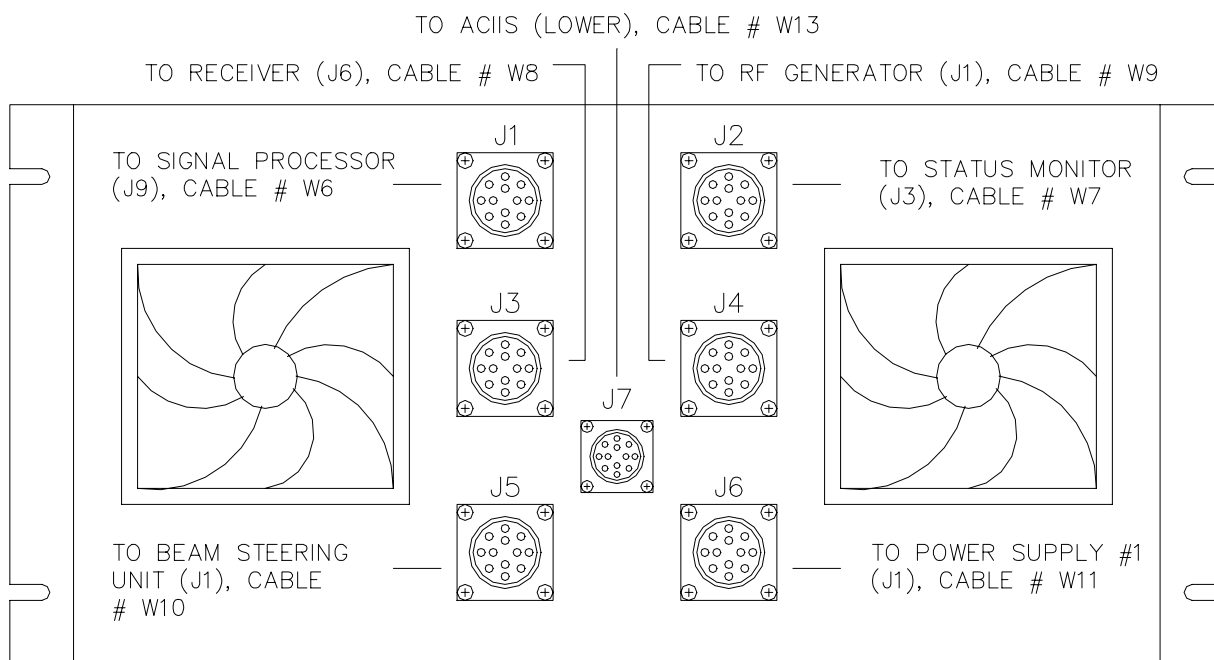

Figure 4-38 Power Supply #1 and #2 Rear Panels
Power Supplies #1 and #2 are the bottom two units of the Equipment Cabinet (see Figure 4-1). Power Supply #1 (PS #1) consists of two short-circuit protected subsidiary power supplies: +5.25 VDC and +28 VDC. Power Supply #2 (PS #2) consists of the following short-circuit protected subsidiary power supplies: two (2) +60 VDCs; one +15 VDC; one -15 VDC; and one -5 VDC. Figure 4-36 shows the interfaces between various profiler components and the two power supplies. The front and rear panels of PS #1 and PS #2 are illustrated in Figure 4-37 and Figure 4-38, respectively.
3. Disconnect all components that draw current from the power supplies. The most convenient place to do this is on the rear panel of PS #2 (see Figure 4-38).
If the voltages are out of specification, the problem has been isolated to a subsidiary power supply in PS #1 or PS #2. Disconnect cable P6 from port J6 on the rear panel of PS #2 (see Figure 4-38) to isolate the power supplies. Again measure the voltage levels to isolate the problem to one of the power supplies. See Section 4.7.2 and Section 4.7.3 for the power supply replacement procedures.